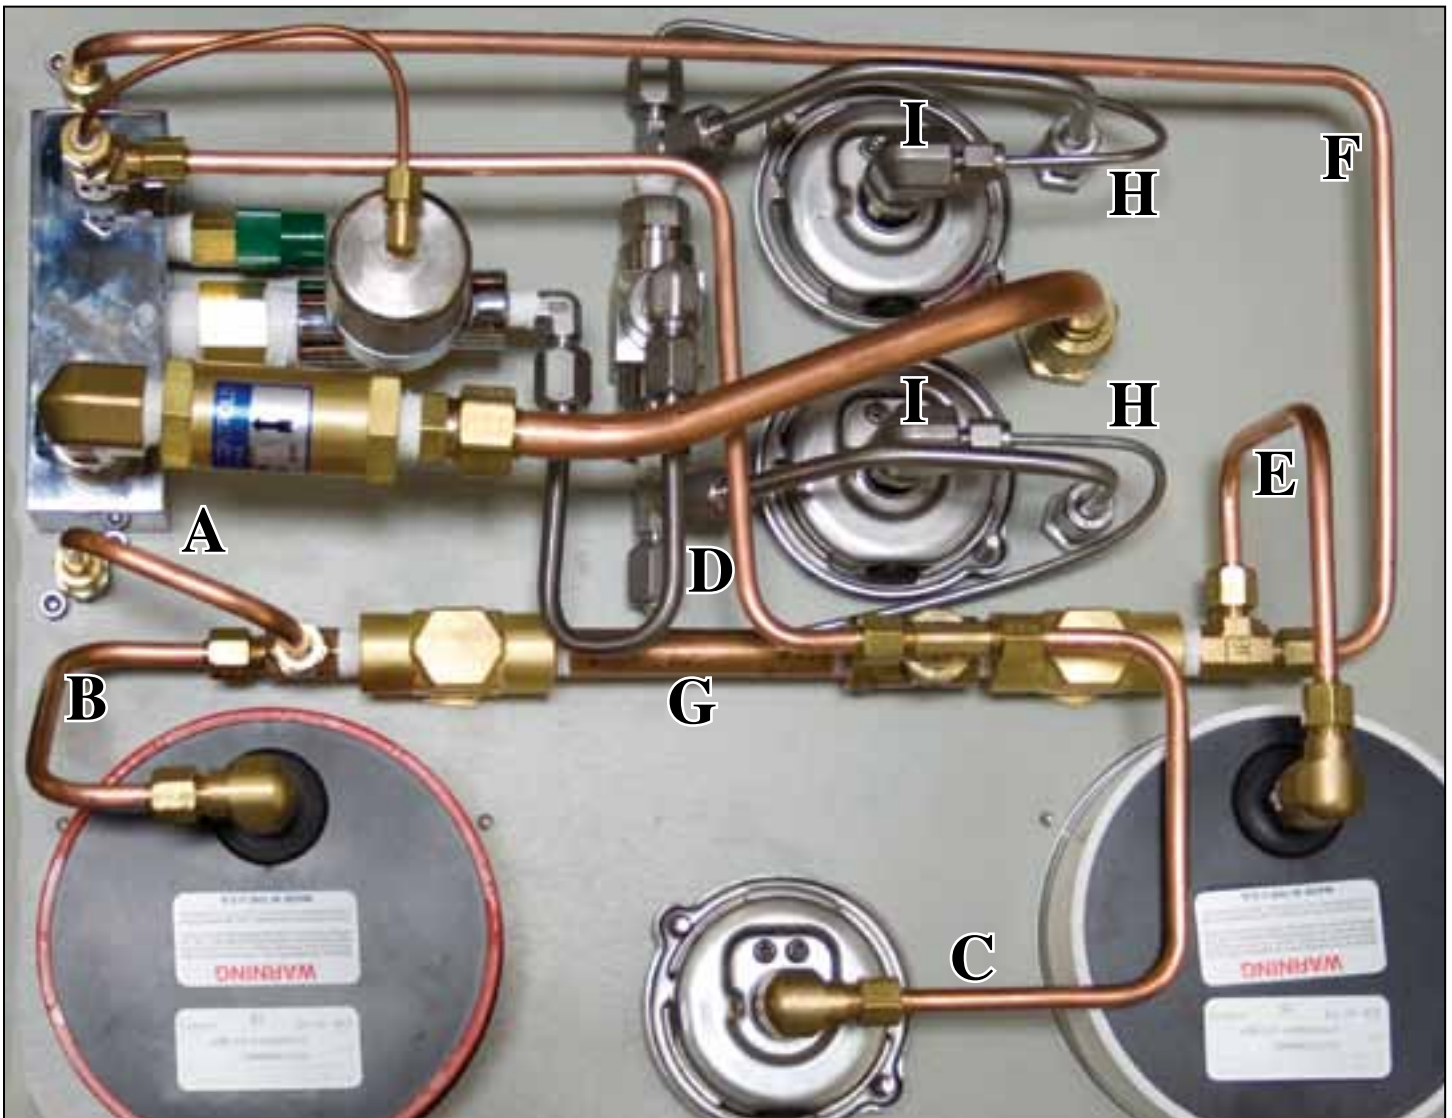

Figure 1 : Completed Assembly
1. Remove P/N 405-160; Outlet Tube, Red Pnuemo. *See figure 1, step A.*
2. Remove P/N 405-150; Tube, Red Pnuemo Gauge. *See figure 1, step B.*
3. Remove P/N 405-107; Tube, Umbilical Gauge. *See figure 1, step C.*
4. Remove P/N 405-145; Tube, Main Pnuemo Supply. *See figure 1, step D.*
5. Remove P/N 405-102; Tube, White Pnuemo Gauge. *See figure 1, step E.*
6. Remove P/N 405-161; Outlet Tube, White Pnuemo. *See figure 1, step F.*
7. Remove P/N 405-130; Pneumo Valve Assembly. *See figure 1, step G.*
8. Remove P/N 405-104; Tube, H.P. Gauge. *See figure 1, step H.*
9. Remove P/N's 455-038; Street Elbow and 455-030; H.P. Connector. *See figure 1, step I.*
11. Install P/N 405-170; H.P. Gauge Tube. Bend to fit. *See figure 1, step H.*
12. Install P/N 455-305; Elbow Assembly, Swagelok®. *See figure 1, step I.*